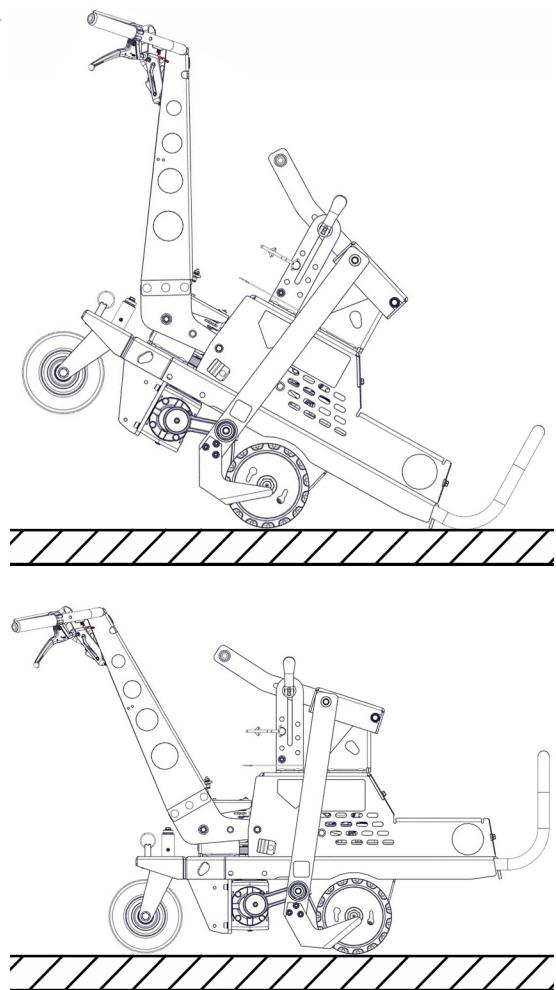

Fig. 9.
TIP: When using the machine for the first time, execute maneuvers on flat ground free of foreign objects to become more comfortable with machine operation. After switching on the engine, follow the instructions given in the previous paragraph. Be mindful of the machine tipping forward (See Figure 9. on the following page).
2. Holding both handles, fully engage the blade clutch lever on the operator's left hand side. Rocking back on the handles, allow the blade to cut into the sod to your chosen depth. Keep the blade clutch lever fully engaged at all times when cutting (see *Fig. 9*).